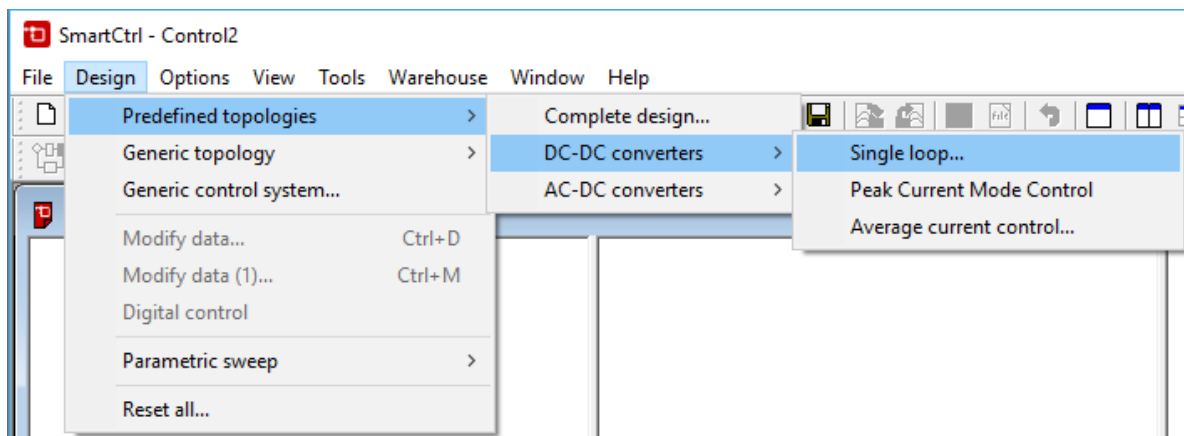

Figure 3: Alternative access to design a Voltage controlled DC-DC converter
- b) Select the corresponding option within the Design menu. See Figure 3.